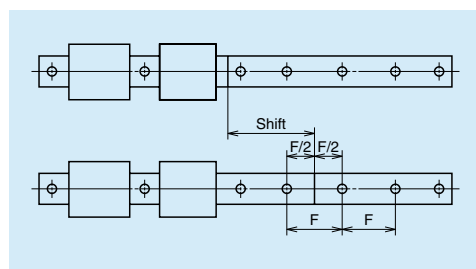

Fig. 10.26
- The pitch of the rail mounting hole on the butting section should be as F in **Fig. 10.26**. When two rails are used in parallel, the butted sections should not align. This is to avoid change in the running accuracy of the table at the butted sections.